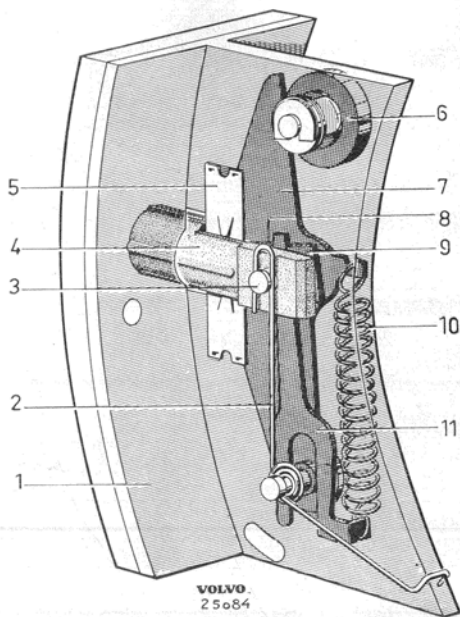

Fig. 3. Self-adjusting device.
The self-adjusting device (Fig. 3) functions in the following way.
1. Press in the contact plug (4, Fig. 3) and check that the key (11) is in its inner position.
2. Disconnect the spring (10) for key and spring (2) for contact plug.
3. Remove lever (7), key (11), contact plug (4), damping spring (5) and guide lip (8).
1. Fit the guide lip (8, Fig. 3). Replace the contact plug and fit the new one in position in the brake shoe. Place key (11) in position with the smooth side facing the guide lip.
2. Press in the contact plug far enough so that the hole in this comes opposite the hole in the brake shoe and fit lever (7) and spring (2) for contact plug.
3. Connect on spring (10) for key and fit damping spring.